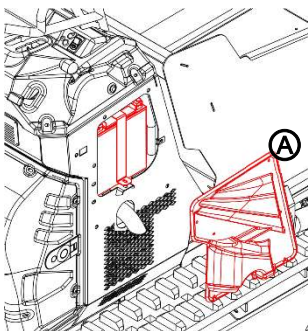

fig.4.12 – Battery Compartment
The battery of the C8X-800 is housed in a compartment on the right side of the dashboard. To access it, it is necessary to remove the plastic cover ① from the dashboard (see Fig. 4.12).